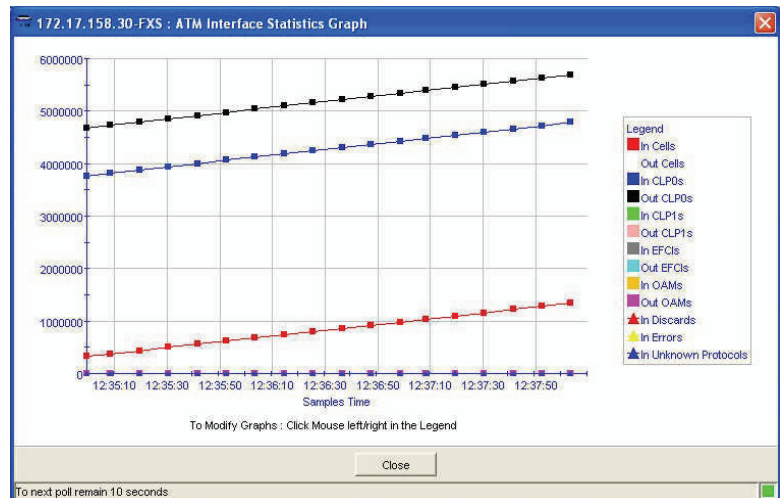

Figure 3. Statistics Graph
- Performance – real-time statistics (see *Figure 3*)